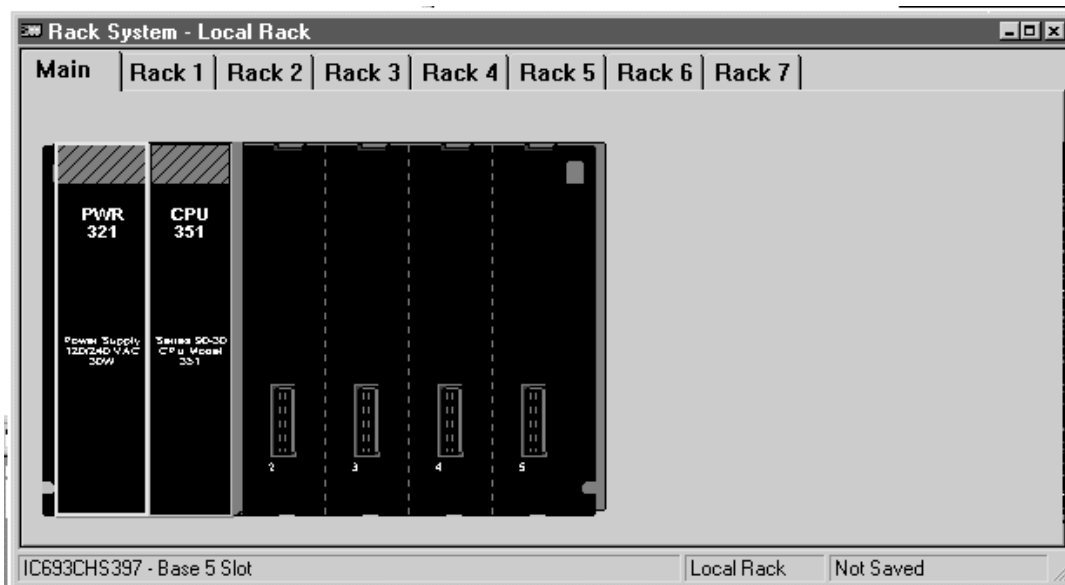

Figure 2.1
Step 2: Select Hardware Configuration. A screen similar to **Figure 2-1** should appear.